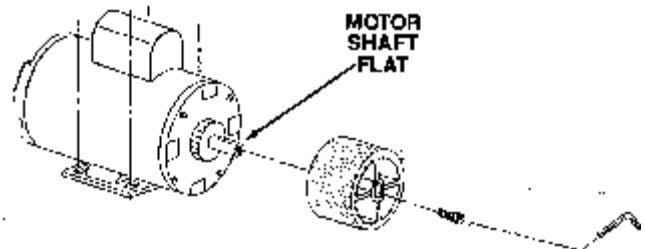

FIG. 7
**GRINDING DISC REPLACEMENT** - Unplug unit from power source. The grinding disc assembly is made up of a unit that is fully replaceable. To remove an old disc lift up the hinged cover (see FIG. 2). Remove the 5/16-18 socket head cap screw from the end of the motor shaft by using the 1/4 (.250) Allen wrench provided in the storage hole located at the bottom of the cup guide support. See FIG. 7